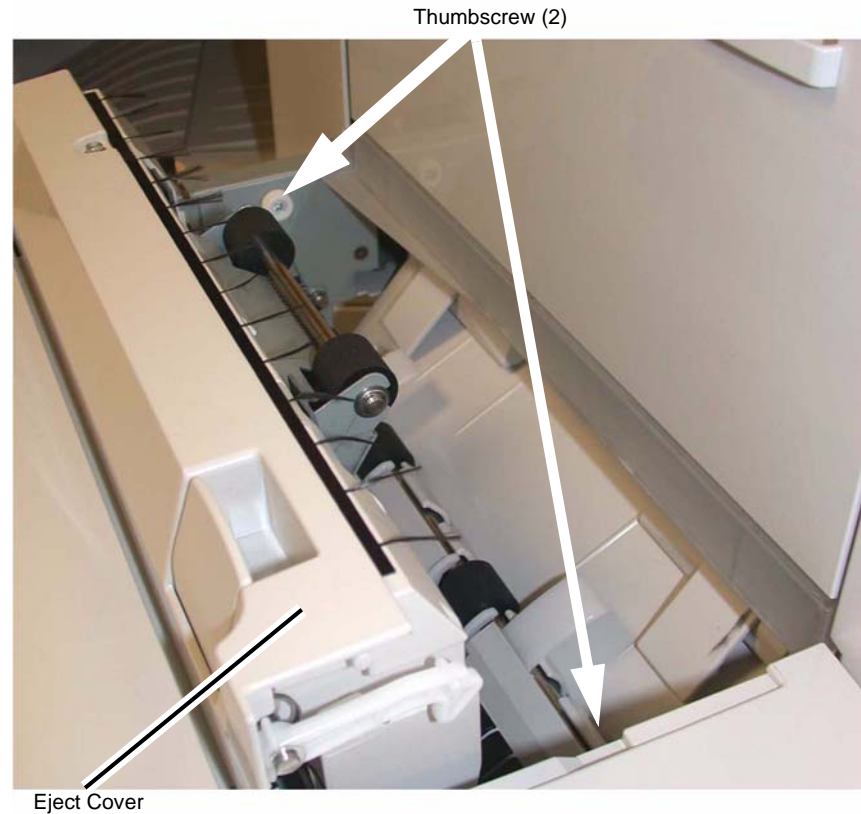

Figure 1 Eject Cover and Thumbscrew
3. Unlatch the Eject Cover, and move it all the way to the left (Figure 1).
4. Remove the Thumbscrews (2) (Figure 1).